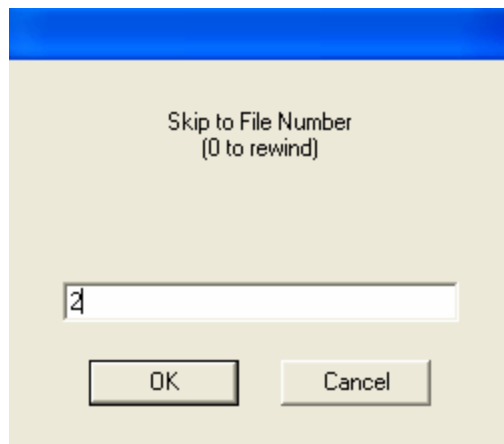

Figure 89: File Number selection for Tape Merge
6. Skip file: To position an input tape unit at a particular file, press the button in the file column that is on the row of the unit to be positioned. APS will prompt the user for the number of the file to position at and then position the tape at the beginning of that file. To rewind the tape, skip to file 0. This prompt is shown in Figure 89: File Number selection for Tape Merge.